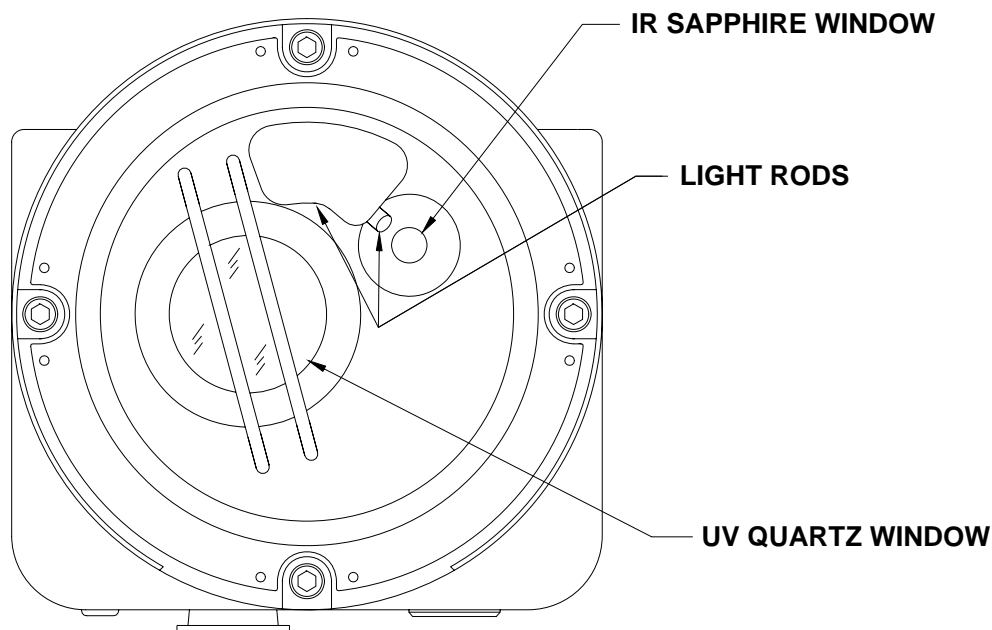

Figure 22: UV and IR Windows
4. Repeat steps 1, 2 and 3 for the light rods (Figure 22). Take care only to clean the non-coated (non - aluminum) areas of the light rods.